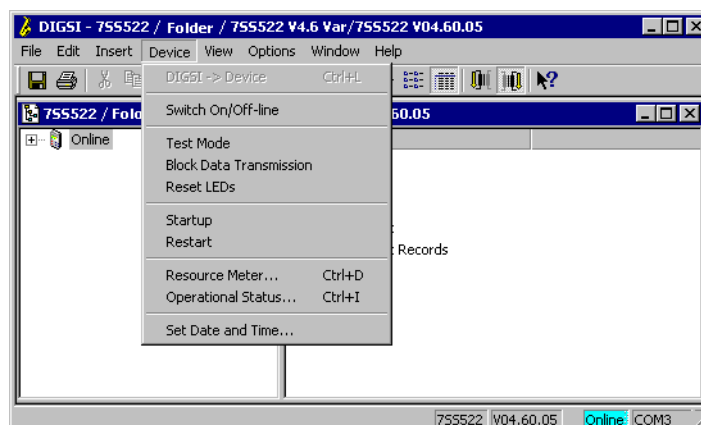

Figure 6-25 Selecting the Set date & time command
- ❑ Click **Device** → **Set Date & Time** (see Figure 6-25, page 241). The dialog box **Set clock & date in device** opens. The displayed values show the actual date and about the actual time. The day is determined automatically from the date and cannot be edited.